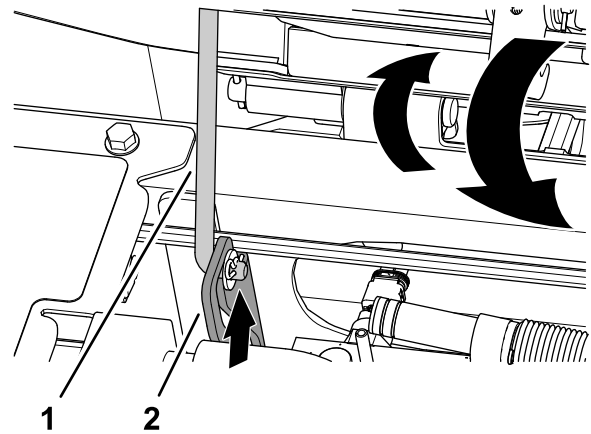

Figure 102
1. Rotate the seat slightly, and lift the prop rod out of the dent of the seat support slot (Figure 102).